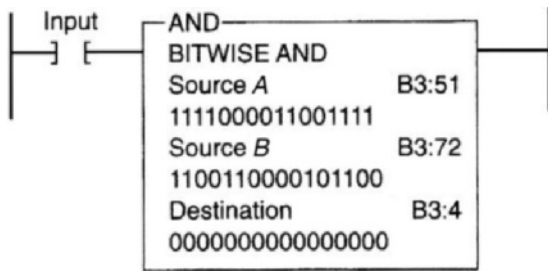

Figure 4-17 Instruction for question 35.
35. What will be the data stored in the destination address B3:4 of Figure 4-17 when the input is true? 35._____